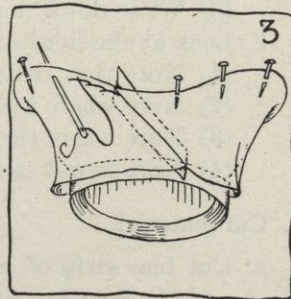

FIG. 3.
- c.* For raw-edge facing, start with one end of the bias strip at the back of the brim, if one strip is used, or to one side of the back, if more than one strip is needed, letting the raw edge come just to the edge of the brim. Stick a pin through the material and the brim, to hold the end of the material in place. Be sure to look back at Figure 3 of Job 16 (page 68). In a facing, however, the material reaches beyond the headsize and you work with the right side out.
- a.* Read and follow Job 16, Sections 3 *c* (1) through (5) and carefully follow Figures 3 through 6 of the same job (page 68).
- e.* Pin the part of the bias where the seam is back again on the brim at edgewire (see Figure 3).
- a.* If the facing is to be a raw-edged one, sew the bias top facing to the brim with $\frac{1}{2}$ -inch forward and $\frac{1}{4}$ -inch back stitches, very close to the edgewire. The long stitch should be on the top of the brim (that is the side that you are facing) (see Figure 3).